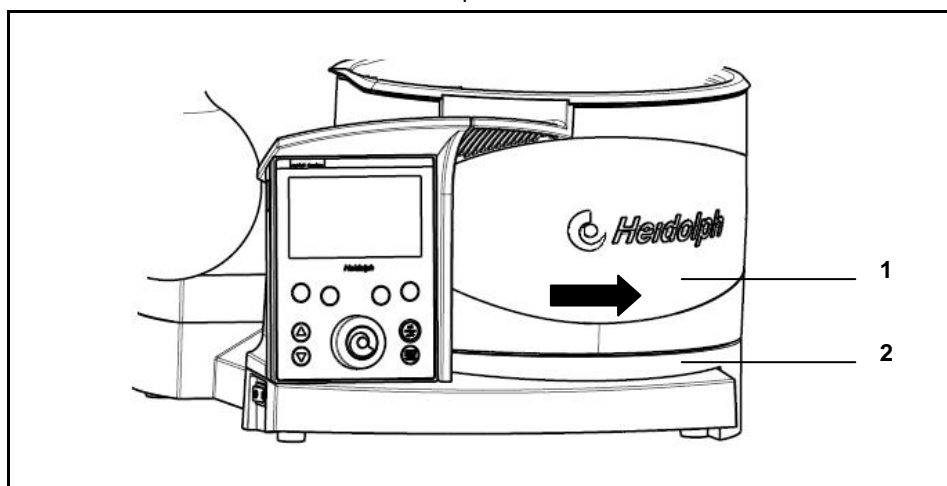

Figure 4-2: Heating bath
- ➔ Shift the heating bath including the base plate by the handle on the rail and position accordingly (Figure 4-2).